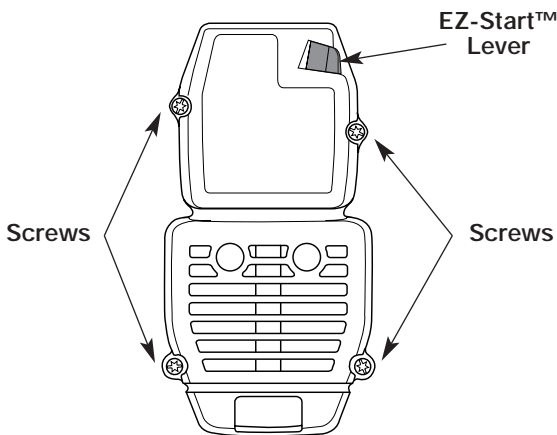

Fig. 23
1. Remove the four (4) screws securing the air filter/muffler cover (Fig. 23). Use a flat blade or T20 Torx bit screwdriver.